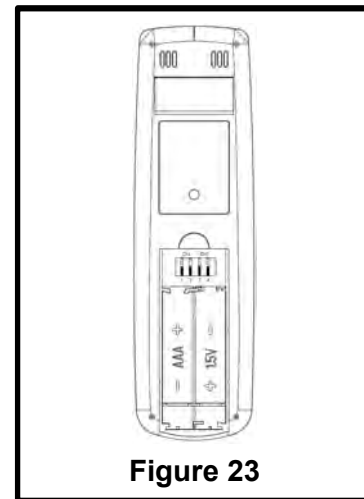

Figure 23
Install the included (2) AAA batteries in the transmitter by first sliding out the battery holder. Then, insert the battery into the battery holder with the plus (+) side up as and slide it closed as shown in Figure 23.